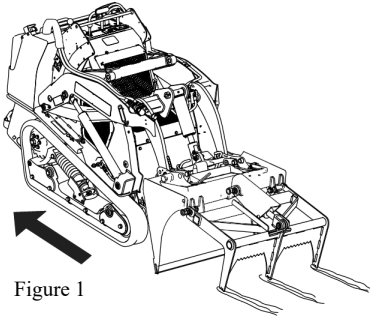

Figure 1
2. Drive the machine rearwards. To rake up loose sticks and other debris, which you can then grab with the jaws, place the teeth on the ground. To dig furrows in the earth and break up the sod, penetrate the ground with the teeth (Figure 1).